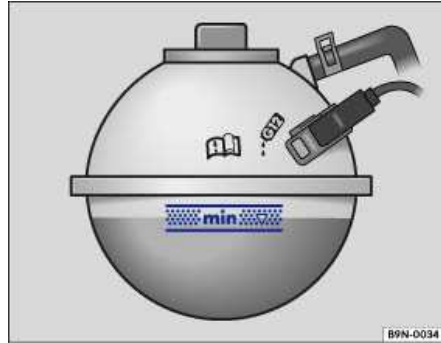

Fig. 141 Coolant expansion tank in the engine compartment.
- When the engine is cold, check the engine coolant level relative to the marking on the side of the expansion tank ⇒ fig. 141.